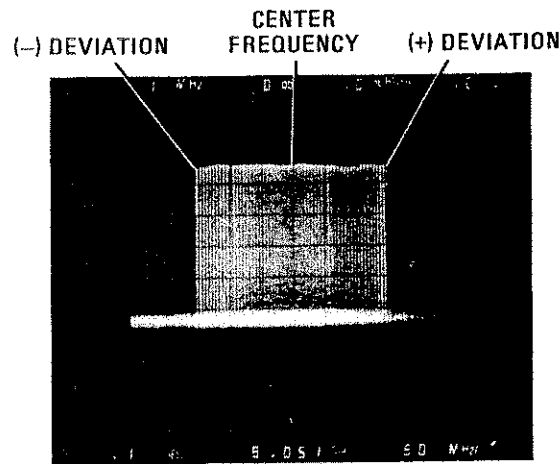

Figure 4-19. Typical Spectrum Analyzer Display of 100 Hz Frequency Deviation
- e. Note point at which deviation becomes non-linear (i.e., + deviation does not equal - deviation). (See Figure 4-19.) Deviation at this point should be at least  $\pm 75$  MHz.
- e. Note point at which deviation becomes non-linear (i.e., + deviation does not equal - deviation). (See Figure 4-19.) Deviation at this point should be at least  $\pm 150$  MHz.